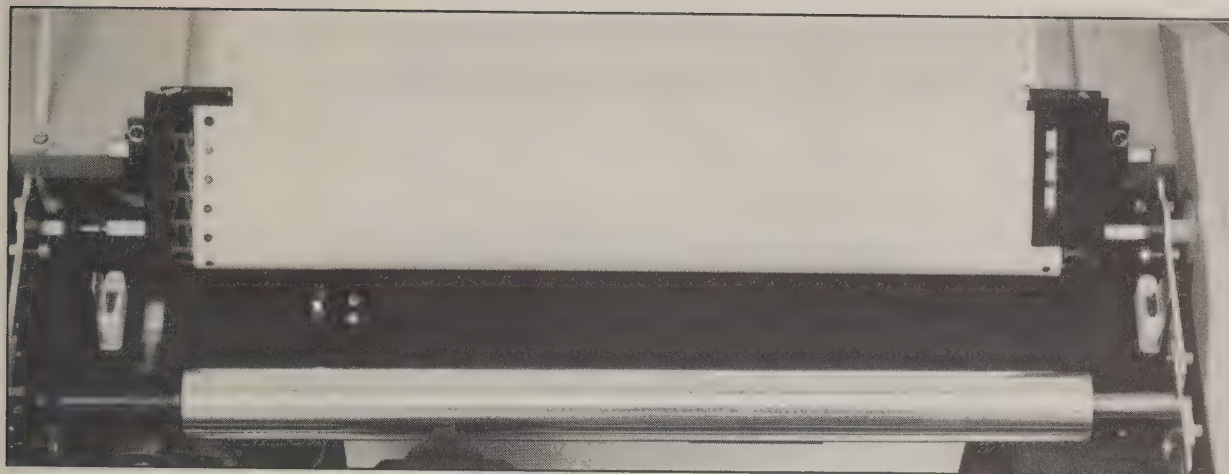

Figure 4-1. Tractor Load Position
5. Lift the tractor mechanism to the load position as shown in Figure 4-1.